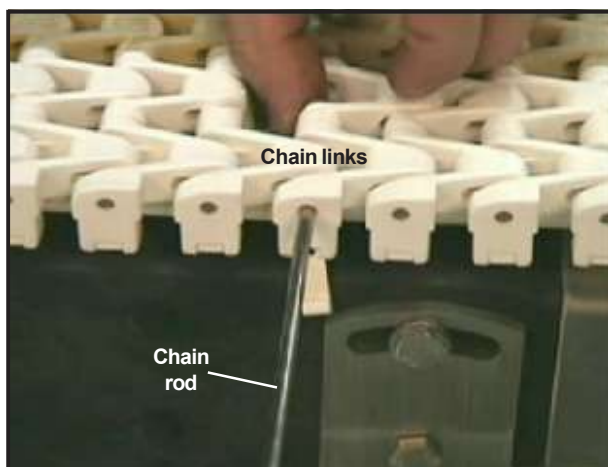

Figure 31: Insert chain rod through links
- If the first roll of chain does not reach the drive end of the conveyor, push it ahead and load another roll of chain. After the second roll of chain has been loaded, join the two sections with a chain rod and install the chain lock tabs (refer to *Figures 31 and 32*, on page 31).
- Feed the chain around the drive by either (A) pulling the end of the chain around, or (B) rotating the drive shaft by hand. DO NOT push the chain into the drive sprocket(s) as the compressed chain will not engage the sprocket(s) properly. If done correctly, the chain will feed smoothly.
- Insert the chain rod on one side, and reconnect each link as you push the rod through (*Figure 31*).